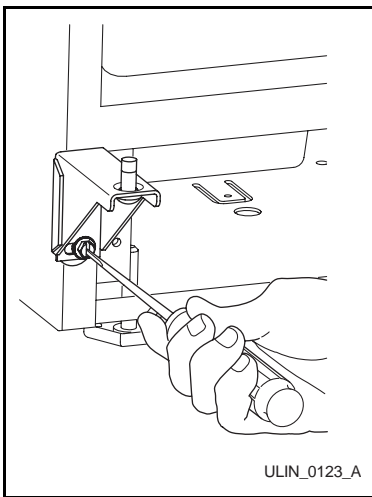

Figure 41
- Install hinge on opposite side, bottom of cabinet (**Figure 41**). Replace nut on back side where installed. Align hinge outer edge with cabinet before tightening screws.